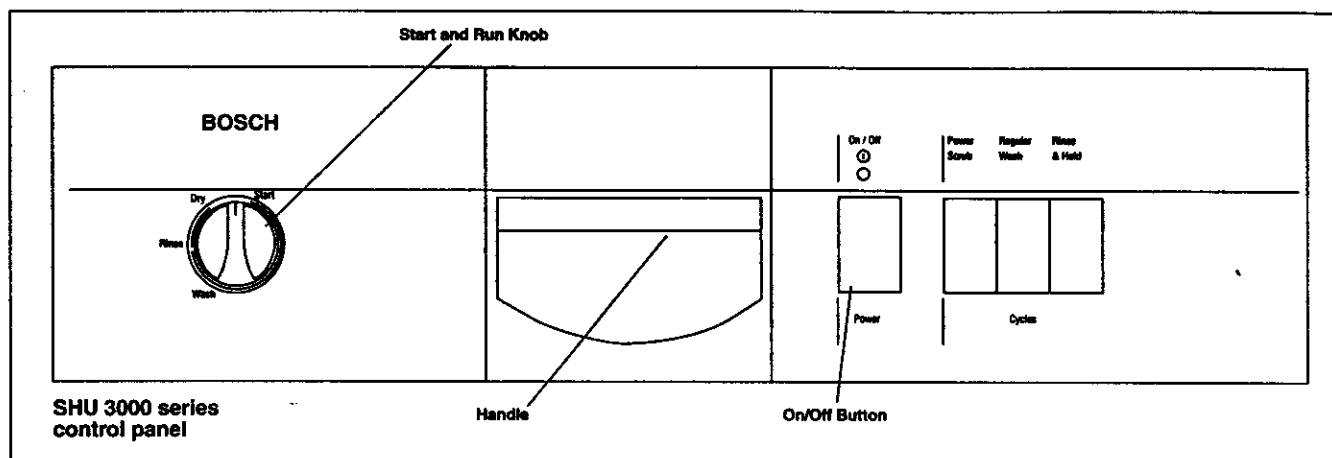

Figure 2.
5. Select a wash cycle, see Table 2, and depress the corresponding cycle button, see Figure 2